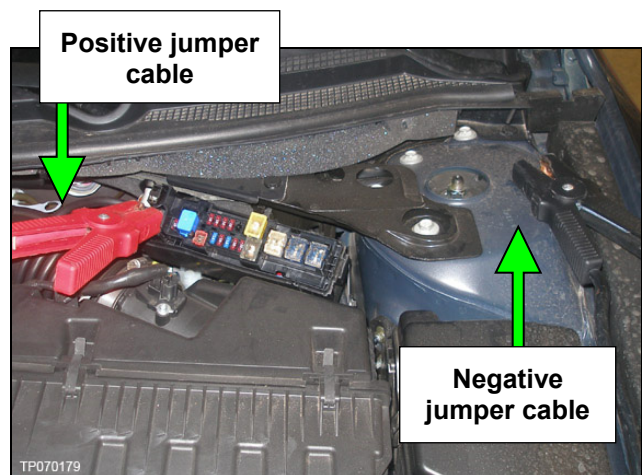

Figure 5
2. Connect the positive (+) jumper cable to the positive stud inside the fuse box. See Figure 5.
3. Connect the negative (-) jumper cable to one of the bolt heads. See Figure 5.